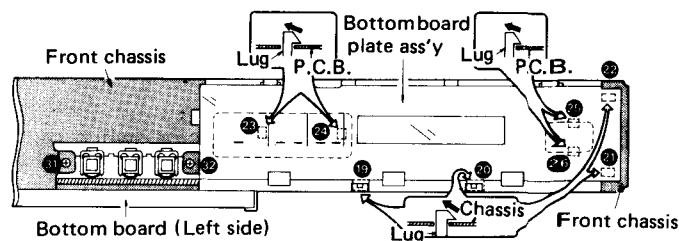
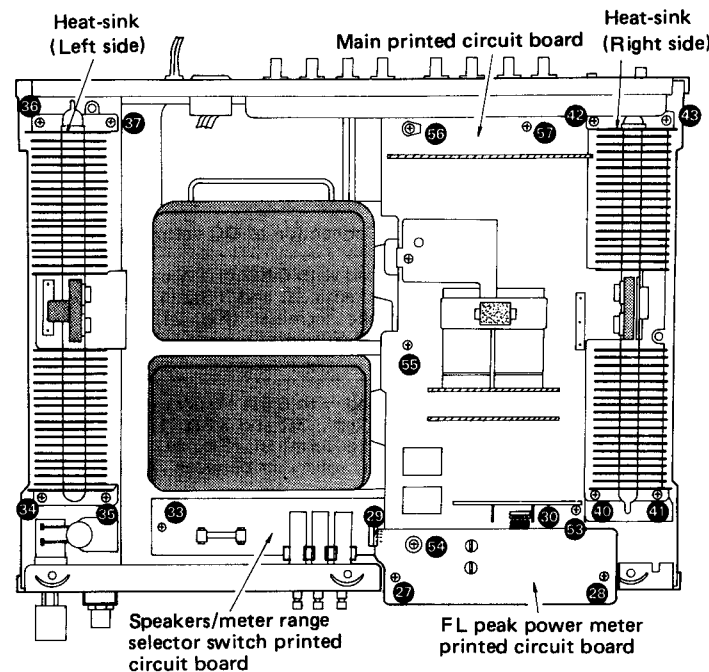

Fig. 10
Fig. 11
3. As shown in Fig. 10, 11 lugs (19 ~ 22) to detach the display window plate ass'y from the front chassis.
4. 4 lugs (23 ~ 26 in Fig. 10) to detach the printed circuit boards from the back of the display window plate ass'y.
5. Remove the 2 setscrews (27, 28 in Fig. 11) of the FL peak power meter printed circuit board.
6. Remove the 2 lead connector (29, 30 in Fig. 11) of the printed circuit board.
4. Remove the 3 setscrews (31 ~ 33 in Fig. 10 and Fig. 11) and cut off the 2 lead clampers.
2. Remove the 4 setscrews (34 ~ 37 in Fig. 11) of the heat-sink.
3. Remove the 4 setscrews (40 ~ 43 in Fig. 11) of the heat-sink.
6. Remove the 4 setscrews (40 ~ 43 in Fig. 11) of the Heat-sink.
7. Remove the 5 setscrews (53 ~ 57 in Fig. 11) of the main printed circuit board.